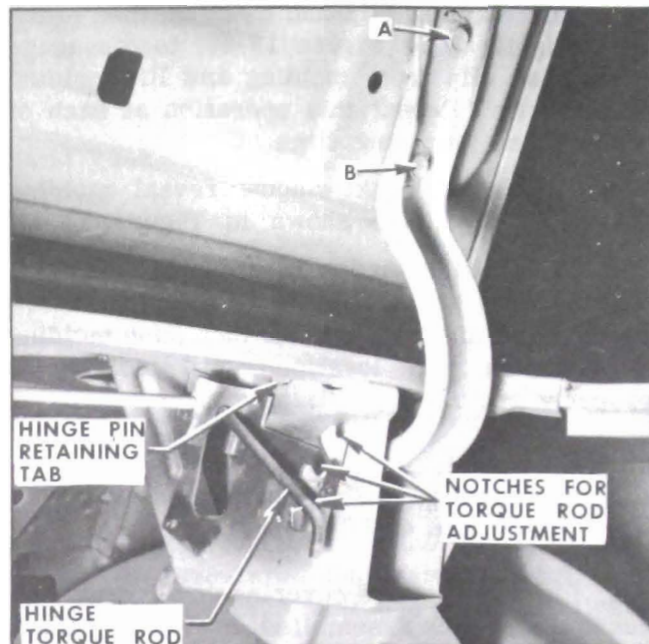

Figure 13-72—Rear Compartment Lid Removal
3. With aid of a helper to hold lid, remove lid attaching bolts "A" and "B" (see Figure 13-72) at both hinge straps and remove rear compartment lid.
1. To adjust compartment lid forward or rearward or from side to side in body opening, loosen hinge strap attaching bolts "A" and "B" (see Figure 13-72) on both sides of lid, adjust lid as required, then tighten bolts.
(a) To raise front edge of lid, place shim(s) between lid inner panel and forward portion of one or both hinge straps at "A" (see Figure 13-72.)
(b) To lower front edge of lid, place shim(s) between lid inner panel and rear portion of one or both hinge straps at "B" (see Figure 13-72).
The amount of effort required to open and close the rear compartment lid is determined by the position of the torque rods in the notches on the inboard face of the hinge boxes. See Figure 13-72. If the torque rod is located in the lowest notch the effort required to open the lid is the greatest and the amount of effort required to close the lid is the least. If the torque rod is located in the top notch, the amount of effort required to open the lid is the least and the amount of effort to close the lid is the greatest.
3. Scribe location of hinge strap on lid inner panel and remove bolts "A" and "B" (see Figure 13-72) securing hinge strap to lid.
5. Bend up hinge pin retaining tab on inboard face of hinge box (see Figure 13-72) and remove hinge pin, then remove hinge from box.
1. Position hinge in box and install hinge pin. Bend over retaining tab to secure hinge pin. See Figure 13-72.